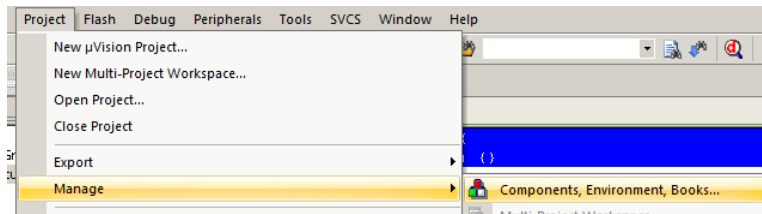
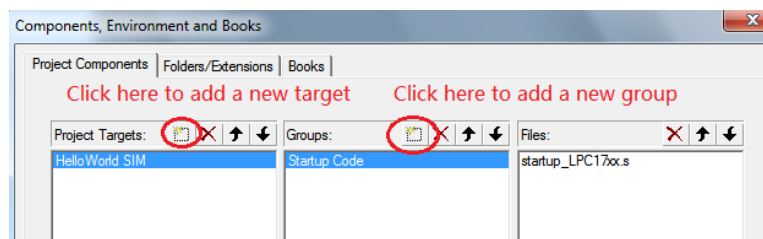
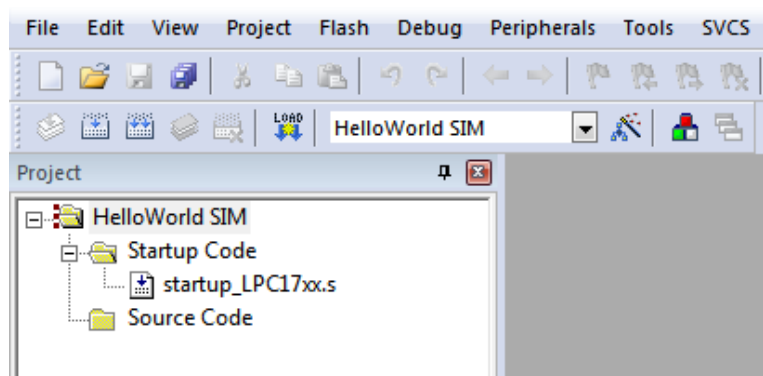

Figure 3.8: Keil IDE: Manage Project Components
Figure 3.9: Keil IDE: Manage Components Window
Figure 3.10: Keil IDE: Updated Project Profile
3. Add a New Source Group You can add new source groups to your project. Click "Project → Manage" → "Components, Environment, Books..." (See Figure 3.8 You can now add new source group to the project. Let's add "Source Code" source group to the project (See Figure 3.9. We add a new source group and name it "Source Code". Your project will now look like Figure 3.10